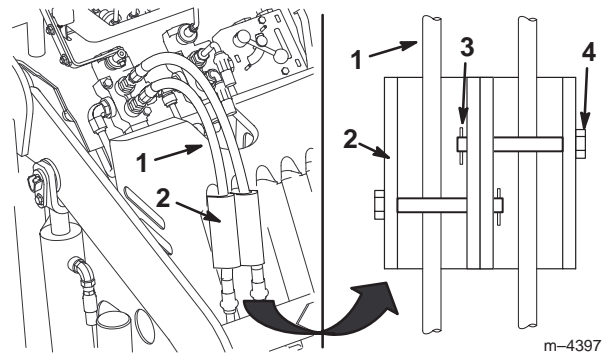

Figure 13
7. Install the cylinder locks over the hydraulic hoses and secure them with the clevis pins and cotter pins (Fig. 13).